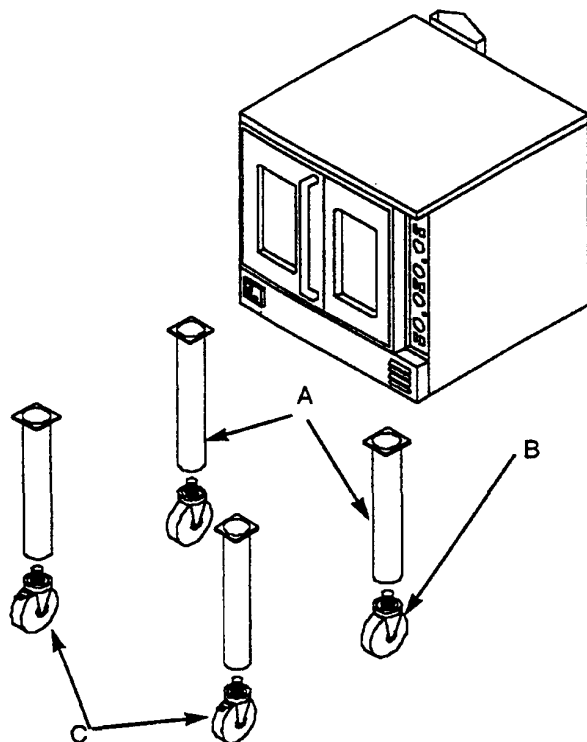

FIGURE 3
Step 4. Remove the element box cover. Attach the wire you installed on (L2) to the element assembly refer to Figure 3.
Step 5. Rewire the element connections according to Figure 3. for three phase. Be sure to inspect the power supply and the wiring diagram on the unit to verify the wiring is correct. Step 6. Connect your power supply wires to the terminal block in the rear of the control compartment.